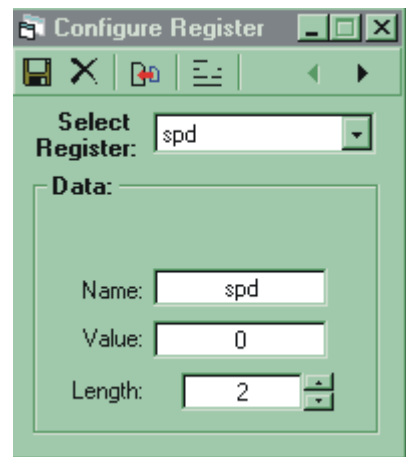

Figure 4.15: Screen 2 Speed Register Setup
- 2] In the Configure Register dialog (figure 4.15), type “spd” in the “Name” box.